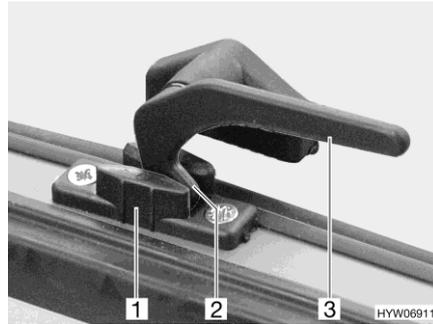

Fig. 62 Catch lever ("continuous ventilation" position)
- "Continuous ventilation" (Fig. 62)
- Turn all catch levers (Fig. 62,3) a quarter turn towards the centre of the window.
- Return all catch levers to their initial position. The locking catch (Fig. 62,2) has to be moved into the recess of the window catch (Fig. 62,1).